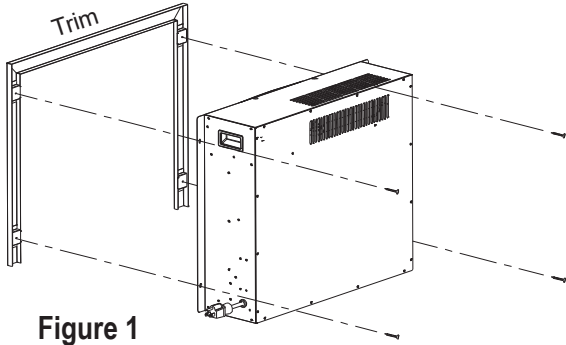

Figure 1
1. Unscrew the 4 screws on the unit to remove the trim, as shown. [Figure 1]